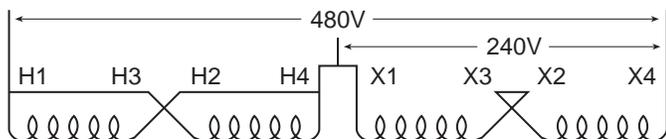

Figure 1
36. Can 4-Winding Single Phase Transformer be auto-connected? **Yes.** There are occasions where 480 volts single phase can be stepped down to 240 volts single phase by autoconnecting a standard 4-winding isolating transformer as shown in Figure 1. If connected in this manner, the nameplate KVA is doubled. For example: A 10 KVA load can be applied to a 5 KVA 4-winding transformer if connected per Figure 1.